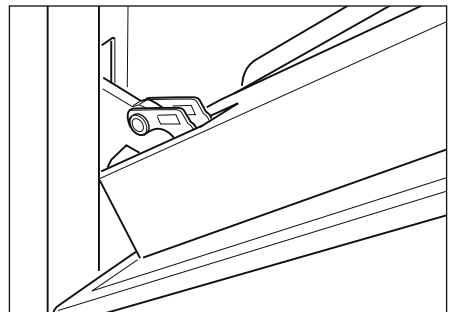

Fig.39d
- Gently close the door until left and right hinge levers "A" are hooked to part "B" of the door (Fig. 39d)